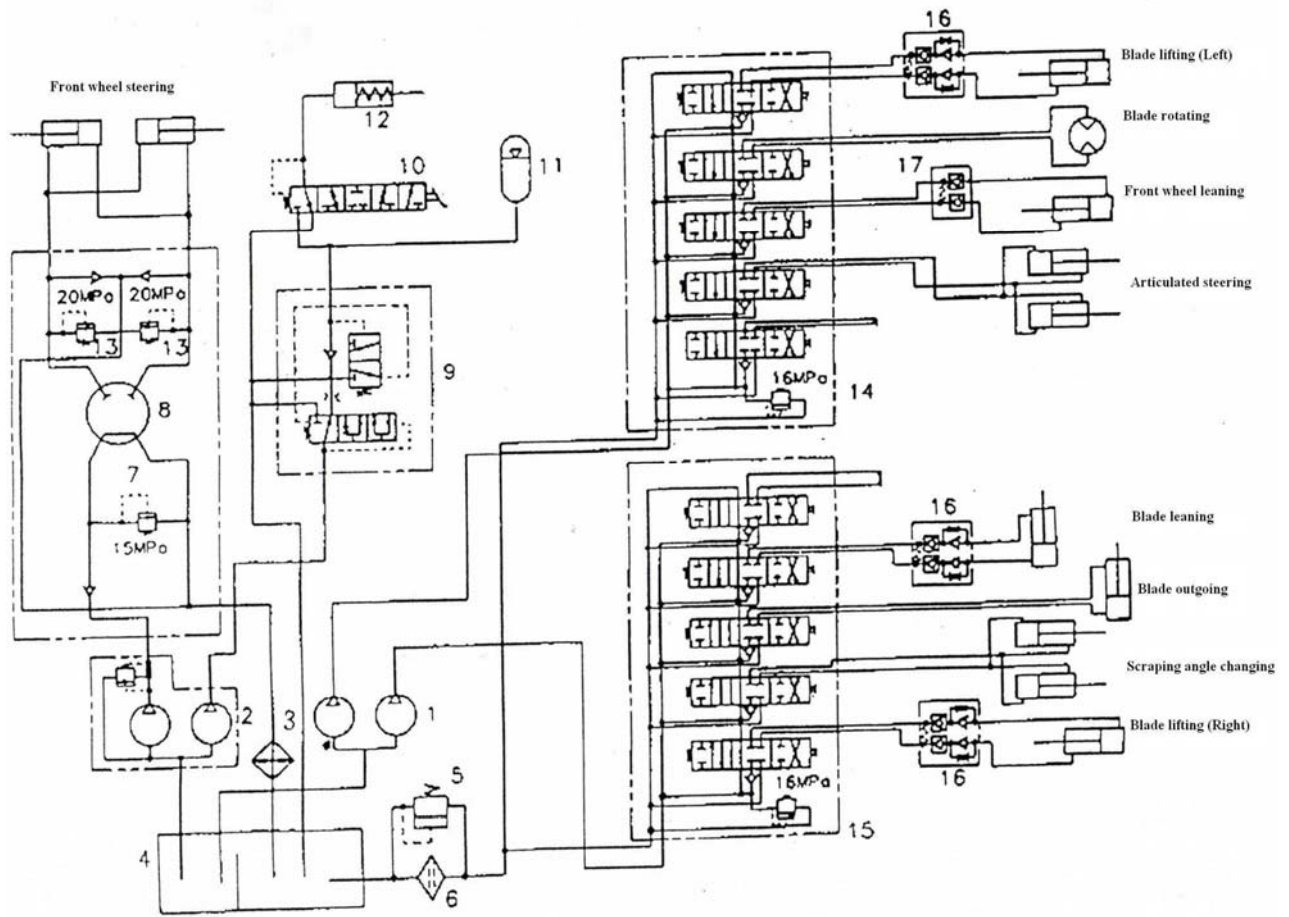

Fig. 9 Service brake, hydraulic operating and steering systems
6.1.3 Traveling braking (Foot braking) hydraulic system (As shown in Fig. 9)
This hydraulic operating system is composed of double pumps and double circuits (Fig.9). It is made up of closed oil tank (4), a two-gang gear pump (1), two five-gang multi-way reversing valves (Refer to 14, 15), hydraulic cylinders for operating apparatuses, motor and hydraulic lines. Each system has its own hydraulic pump, but the hydraulic oil is supplied from the same oil tank (4). The hydraulic oil from oil tank (4) is pumped by a two-gang pump (1) into two circuits. Among them, oil flows are equal. When multi-way reversing valves (14, 15) are in central position, the hydraulic oil, passing through returning lines and the filter (6), returns to oil tank (4).